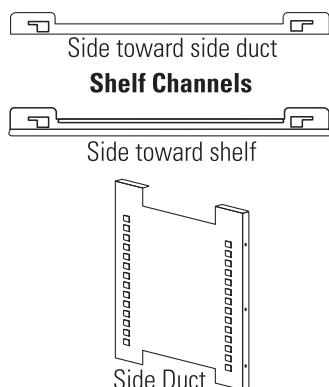

Figure 1-10. Shelf Channels and Side Duct
1. Install the side ducts with the tabs facing into the center of the chamber with their slots up. There are no right side or left side ducts, simply rotate one of them to fit the opposite side. Tilt the side ducts as they are placed in the chamber so the tops fit into the top air duct, then guide them into the vertical position. Figure 1-10 shows the duct as it would be oriented for the right side of the chamber. Note that there is no difference between left and right side shelf channels.